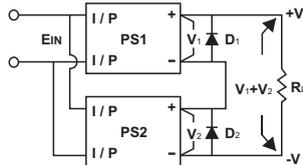

Figure 11: Series connection by adding external reverse blocking diodes
- Increase the output voltage (current does not change). If there is no reverse blocking diode in the power supply, we should add an external blocking diode to prevent the damage of power supply while starting up. The voltage rating of the external diode should be larger than V_1+V_2 (as figure 11).